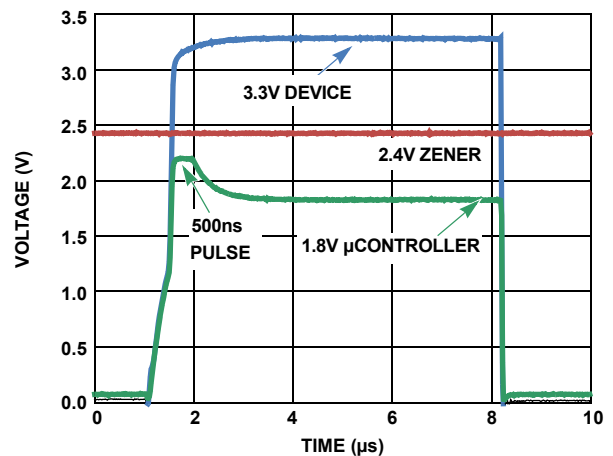

FIGURE 2. 1.8V TO 3.3V LEVEL SHIFTING
3. Providing protection on the 1.8V microcontroller against the potential overcurrent caused by the rise time accelerators on the buffer. A critical concern is the rise time accelerator from the I²C buffer damaging the 1.8V microcontroller. ESD diodes internal to the microcontroller are forward biased at ~0.5V above its supply rail. While the rise time accelerators drive the bus to 2.4V, they are active for only ~500ns (see Figure 2). If overcurrent is a concern, a series resistor on the I²C SDA (Data) and SCL (Clock) lines of 10Ω limits the current to protect the microcontroller. Assuming a worse case 0V diode conduction, the peak current is limited by the capability of the rise time accelerator circuit on the buffer, in this case 5mA. From a voltage stand-point a 1.8V to 3.3V microcontroller has an absolute maximum voltage in the 3.6V range, much less than the 2.4V from the accelerator drive.